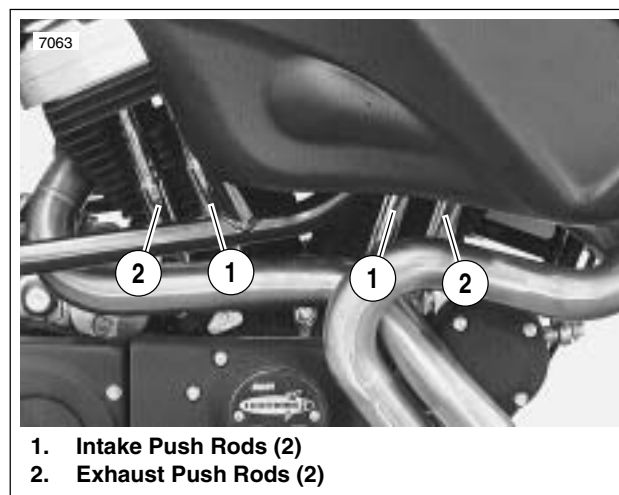

Figure 3-28. Push Rod Locations (Shown on Assembled Engine)
13. See Figure 3-28. Identify push rod color coding, length and respective push rod positions in engine. See Table 3-5. Place intake and exhaust push rods onto seat at top of lifter.